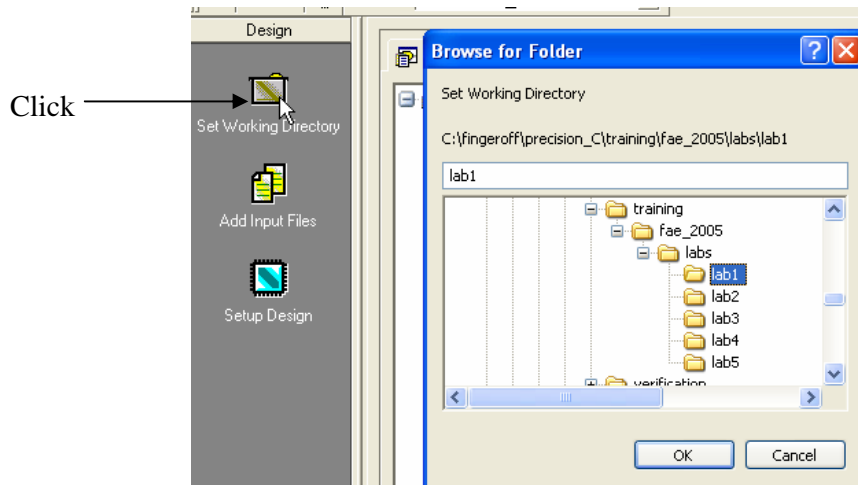

Figure 1 Setting the working directory
- ✓ To manually set the directory click on the “Set Working Directory” icon in the design bar and navigate to the lab1 directory (Figure 1).